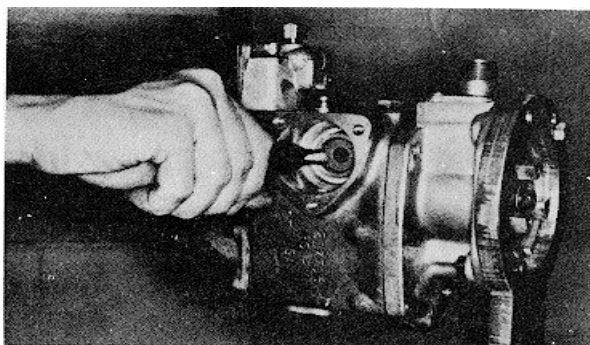

Fig. 5-27, F5304. Removing AFC barrel retaining ring.
4. Remove AFC barrel retaining ring. Fig. 5-27.
Note: Lightly coat all "O" rings with a 50-50 mixture of a lubricating oil additive (such as STP) and clean lubricating oil just before installation. Fig. 5-27.